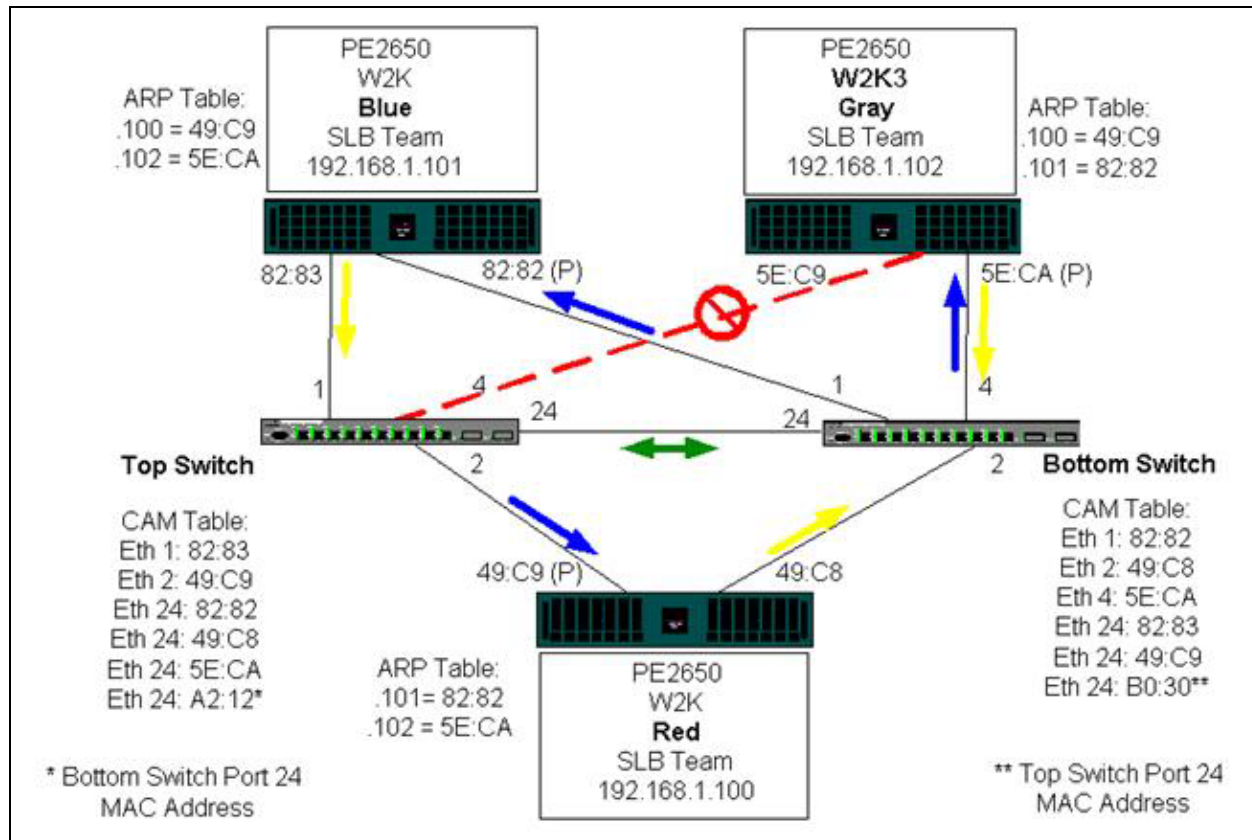

Figure 12-5. Failover Event
- Figure 12-5 is an example of a failover event with the Interconnect cable in place.
Figure 12-5 represents a failover event in which the cable is unplugged on the Top Switch port 4. This event is a successful failover with all stations pinging each other without loss of connectivity.